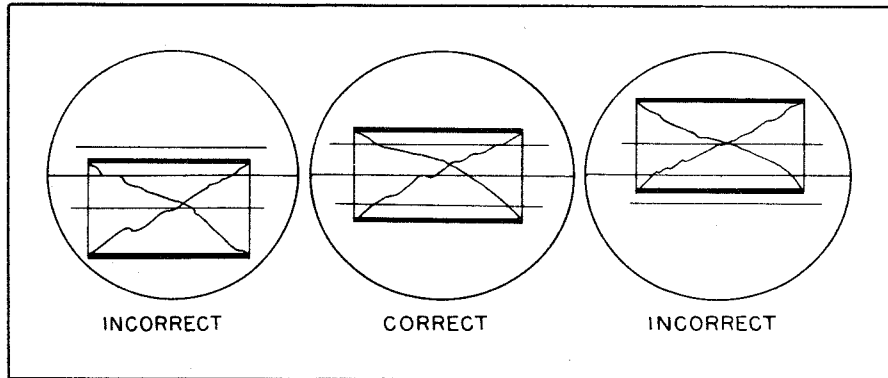
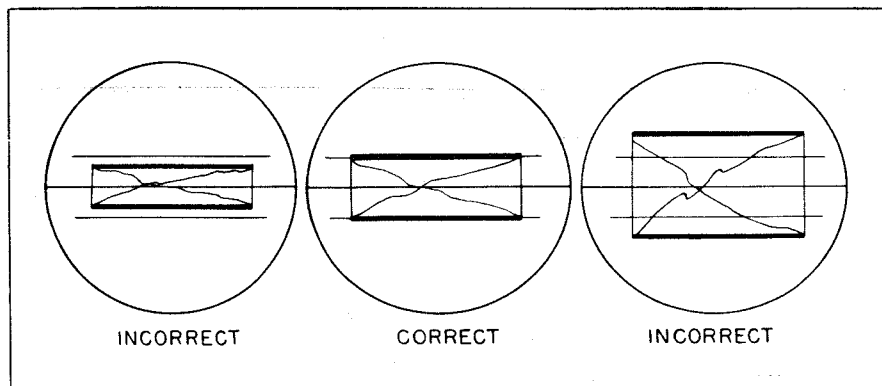

Figure 3-7. Radio Receiver Tuning Patterns as Seen on Tuning Monitor
Figure 3-8. Tuning Pattern (CAL IN) On Tuning Monitor
(10) With the VERT GAIN control, adjust the separation of the two lines, on the cathode-ray tube, to a convenient distance apart.
(11) Adjust receiver tuning (main dial and bfo) to center the lines on the cathode-ray tube (see Figure 3-7).
(12) Set TUNE-OPERATE switch to OPERATE; teletypewriter may start printing.
(13) Push CAL IN button and adjust THRESHOLD control, to produce a pattern on the cathode-ray tube which matches the top and bottom lines engraved on cathode-ray tube window. (see Figure 3-8).
(14) Release CAL IN button.
(15) Teletypewriter should be printing; if it does not, change position of NORM-REV switch or tune radio receiver to other side of zero beat.
(16) Turn the LOW-HIGH-ADJ switch to the ADJ position and push the CAL IN button. The cathode-ray tube pattern should just fit between the top and bottom engraved lines of the window. This is a sensitivity check of the tuning monitor tube V702 and amplifier tube V601B.
(17) Turn the LOW-HIGH-ADJ switch to original position.
(18) Connect an external test oscilloscope such as Navy Models OBL or OBT series, to the TONE OUTPUT or PHONE jacks and with TONE FREQ on EXT, TONE LEVEL on 10, no tone input adjust MOD BAL for minimum transients on the signal.
(19) Adjust the % MARK control as follows: